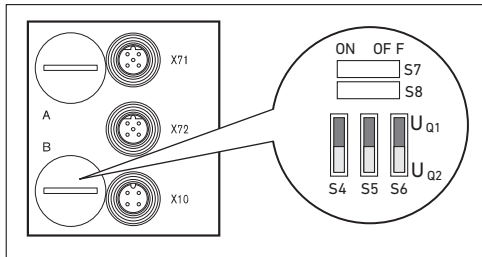

Fig. 9: S4, S5, S6 switches for assigning valve supply voltages (U_{Q1}, U_{Q2})
The S4, S5, and S6 switches for assigning the valve supply are located beneath PG fitting **B** (see Figure 9). The following is assigned to each switch:
1. Open the lower screw cap **B** (see Fig. 9 on page 104).
2. Using the S4, S5, and S6 switches, assign each valve group to one of the two supply voltages UQ1 or UQ2 (see Fig. 9 on page 104 and Fig. 10 on page 110).